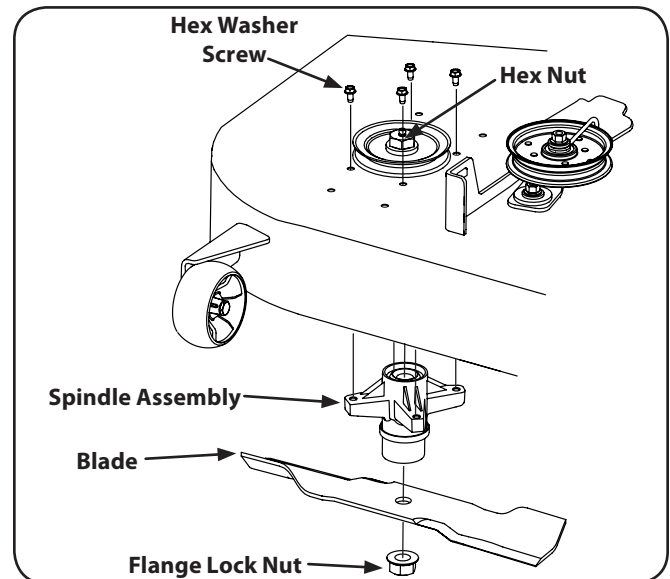

Figure 7-13
2. Use a $\frac{3}{4}$ " wrench to hold the hex nut on top of the spindle assembly when loosening the hex nut securing the blade. See Fig. 7-13.
2. Remove the hex washer screws securing the belt covers to the deck and remove the belt from the spindle pulleys. Refer to Fig. 7-13.